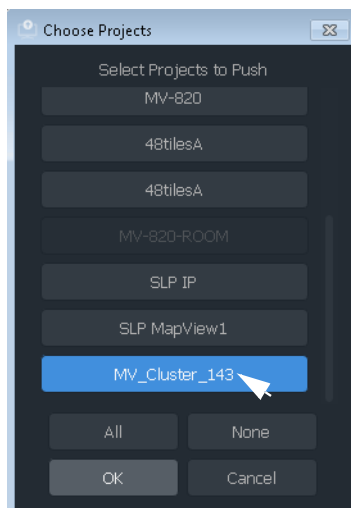

Fig. 7-14: Choose Push
- 2 Ensure that the project Repository to be pushed is selected (highlighted in blue) in the dialog. See Figure 7-14.